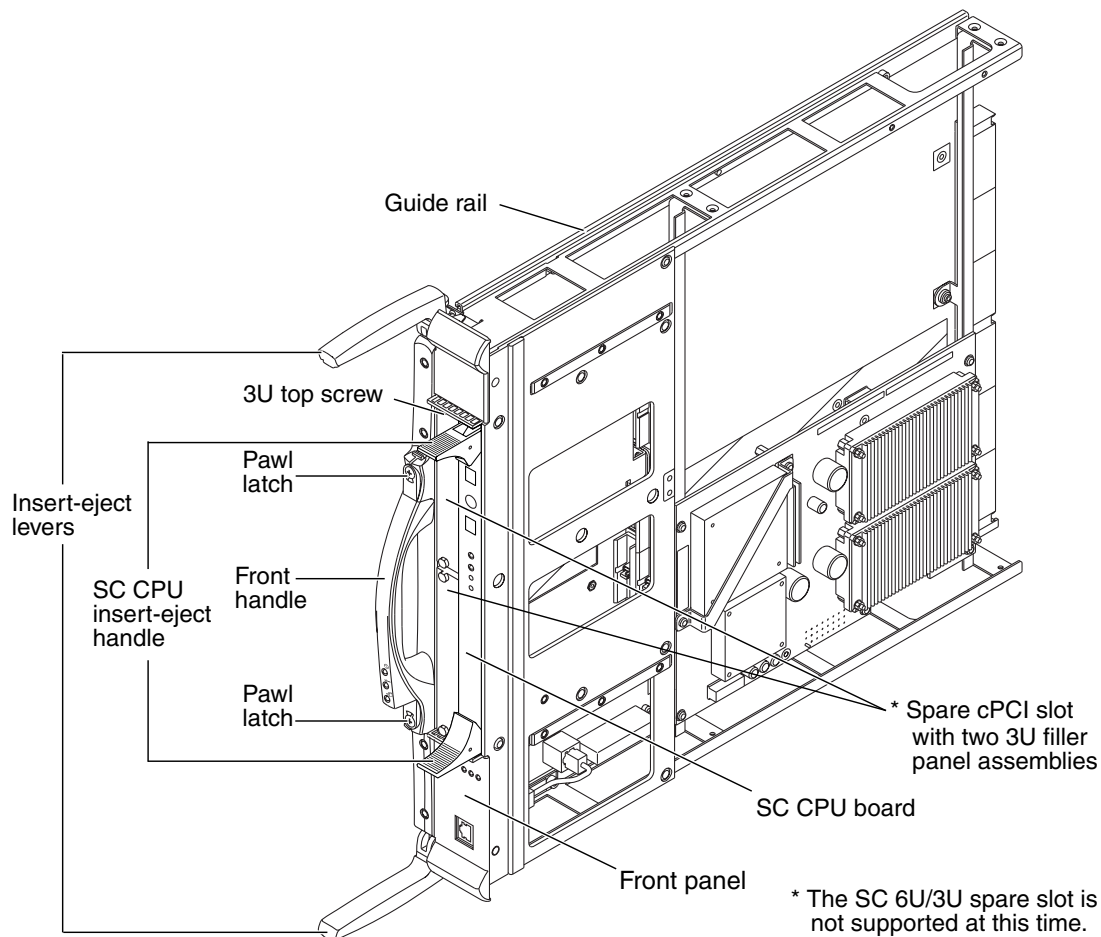

FIGURE 6-2 System Control Board
4. Apply equal pressure to both insert-eject levers in the unlocking direction and pull the board outward to release it from the centerplane support board. (FIGURE 6-2).